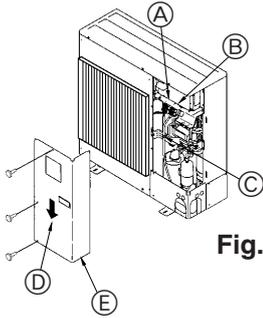

Fig. 6-2
- ① Indoor unit
- ② Outdoor unit
- ③ Remote controller
- ④ Main switch/fuse
- ⑤ Grounding
6.2. Outdoor unit wiring (Fig. 6-2)